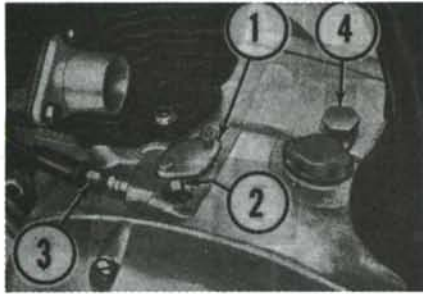

Fig. A3-4—The oil pump used on 250cc models must be adjusted as described in text.
To adjust the oil pump metering system, remove the small cover (1—Fig. A3-4). Twist throttle grip to full open and check to make certain that carburetor throttle slide is completely up. When the carburetor throttle slide is completely open, the white mark on pump lever should be aligned with the red mark on crankcase as shown at (2). Adjustment is accomplished at cable adjuster (3). It may be necessary to adjust throttle cable if slide is not completely open. Oil consumption should be approximately 1 pint every 150-175 miles.